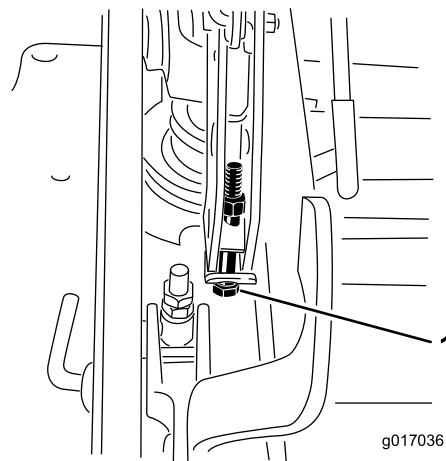

Figure 75
- If the deck is too low, tighten the single point adjustment bolt by rotating it clockwise. If the deck is too high, loosen the single point adjustment bolt by rotating it counterclockwise (Figure 75).